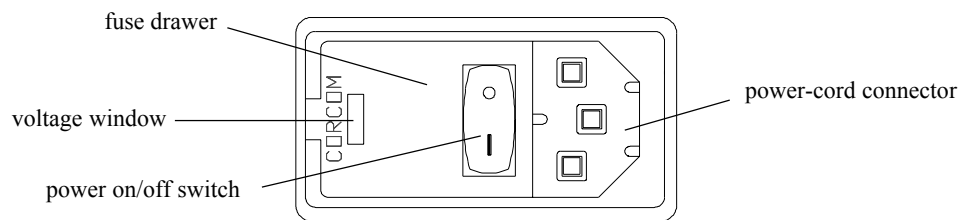

Figure 5-1. Power-Entry Module
- 1a. Turn off the power switch on the power-entry module (Figure 5-1).
- 1f. *For line-to-neutral operation*, use either the shorting clip and one fuse or use two fuses. (The shorting clip will be on the left side of the drawer when rotated to the correct voltage position as shown in Figure 5-1.) *For line-to-line use*, discard the shorting clip and use two fuses.